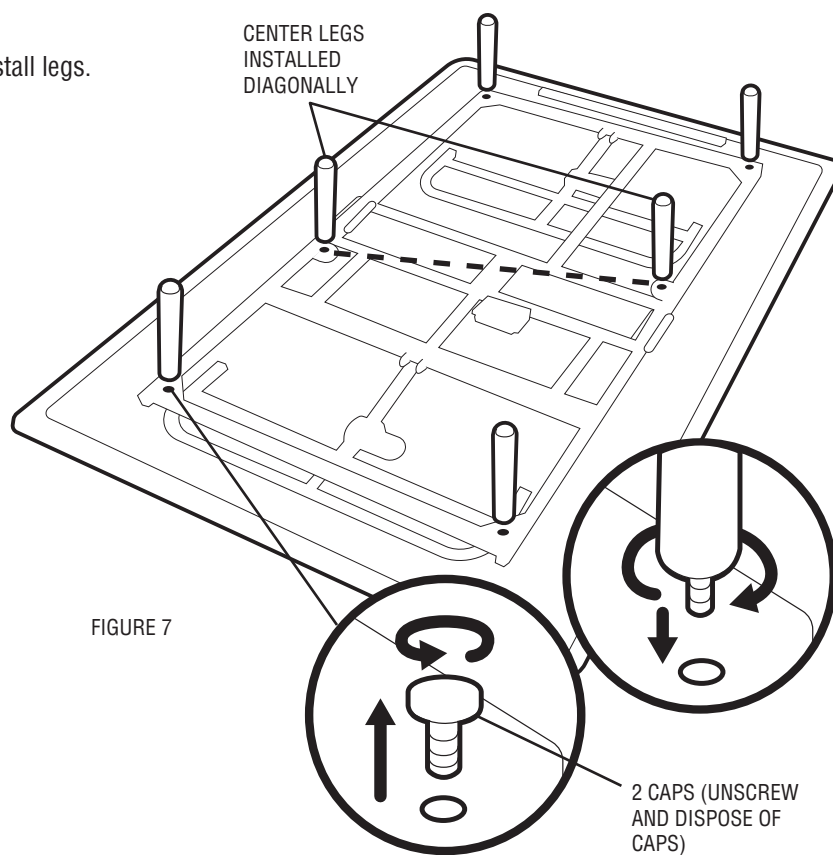

FIGURE 7
Unscrew and remove (2) caps at one end of base frame (FIGURE 7).
Screw (4) legs into the tapped holes at the corners of the base frame (FIGURE 7).
Screw (2) legs at the hinges in diagonal position across the center fold of base (FIGURE 7).
DISPOSE OF CAPS AFTER REMOVAL (FIGURE 7).